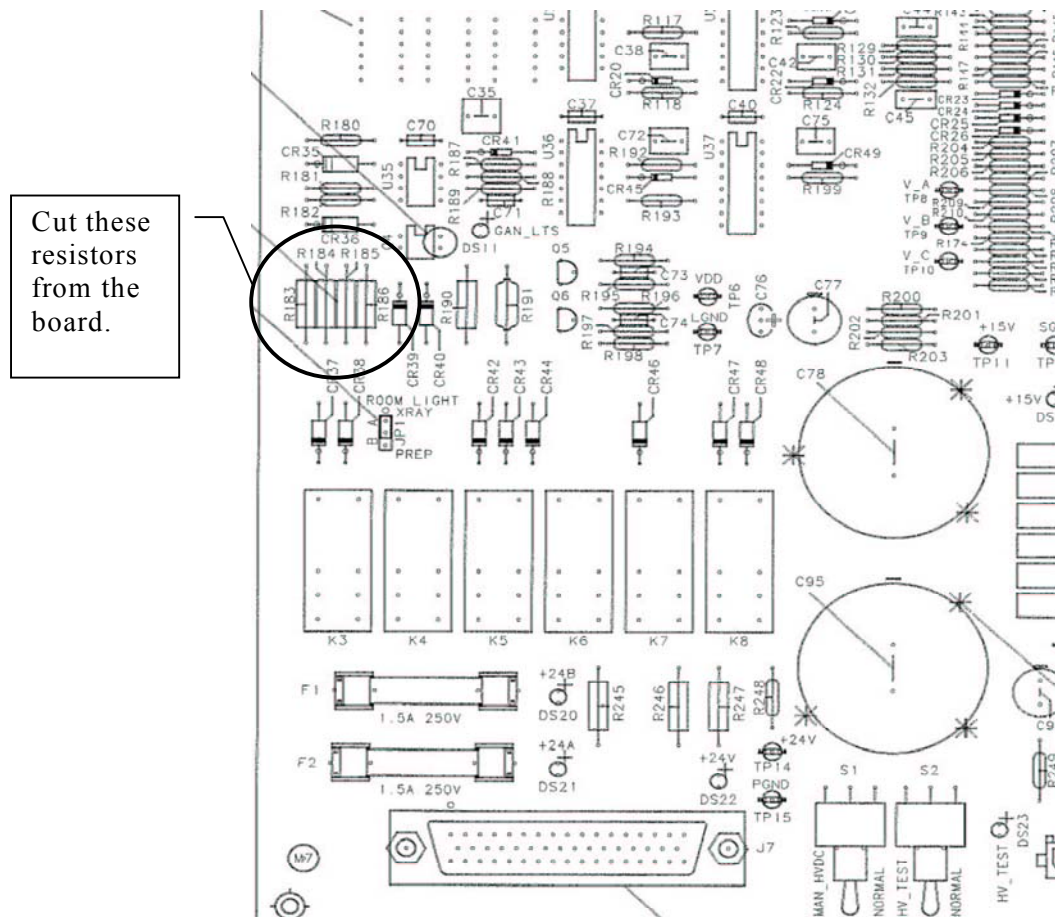

Figure 1 – Compact PDU Control Board Modification
- 2) Refer to figure 1. Locate resistors R183, R184, R185, and R186 near the lower left side of the board. Cut both leads of all four resistors to remove and discard them.